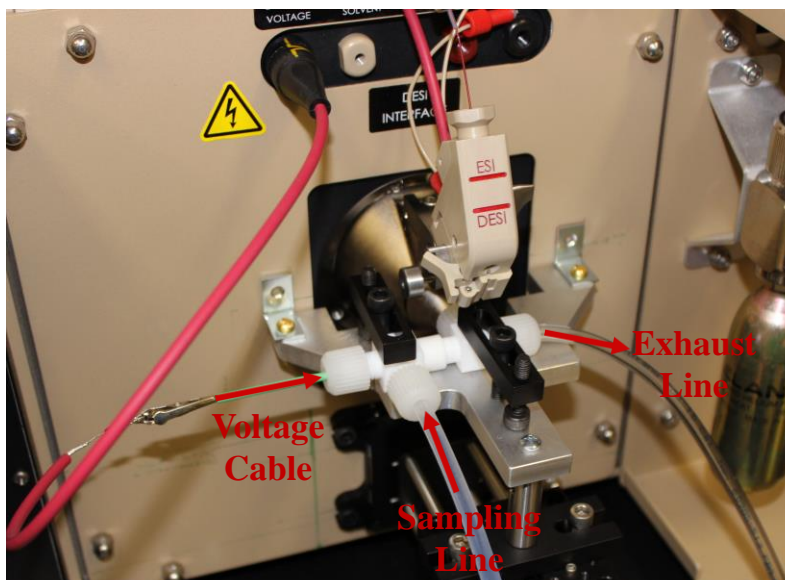

Figure 2.14 – APCI source setup
APCI allows for the sampling of a variety of analyte(s) present in a gaseous state (e.g. accelerants or compounds related to clandestine methods). The APCI source utilized with the AI-MS allows direct sampling of gaseous headspace via a sampling line or direct vapor injection (Figure 2.14). The following procedure should be followed when using APCI.
1. Ensure that the ESI/DESI source is in the “up” position. Confirm that the discharge needle is aligned correctly, ensuring a 3 mm gap is present between the end of the discharge needle and the inlet capillary (Figure 2.14).
2. Attach the PFA exhaust line connecting the auxiliary pump to the APCI source (Figure 2.14 and 2.15).
3. Attach the PFA sampling line to the source inlet (Figure 2.14).
5. Attach the high voltage cable to the source (Figure 2.14).